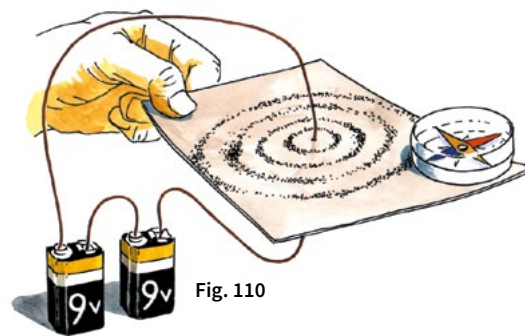

Fig. 110
1. Push a piece of copper wire through the centre of a large piece of cardboard, as shown in fig. 110. Connect both wire ends to the battery, and by using a compass, check the magnetic field of the conductor. Your task is to discover the extent of the magnetic field as well as its strength. The experiment is made by a continuous closing and opening of the circuit whereby the deflection of the compass needle in different positions should be observed carefully.